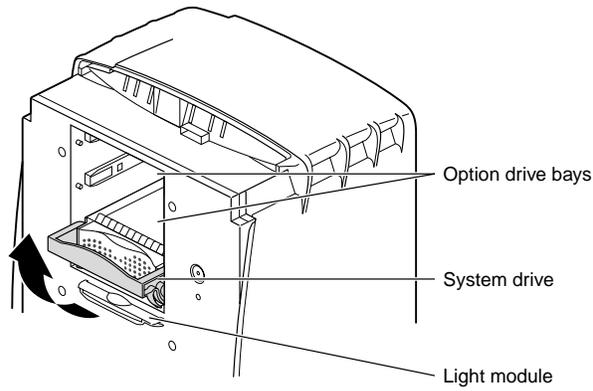

Figure 7-15 Unlocking the System Drive
2. Raise the handle to a horizontal position, as shown in Figure 7-15.